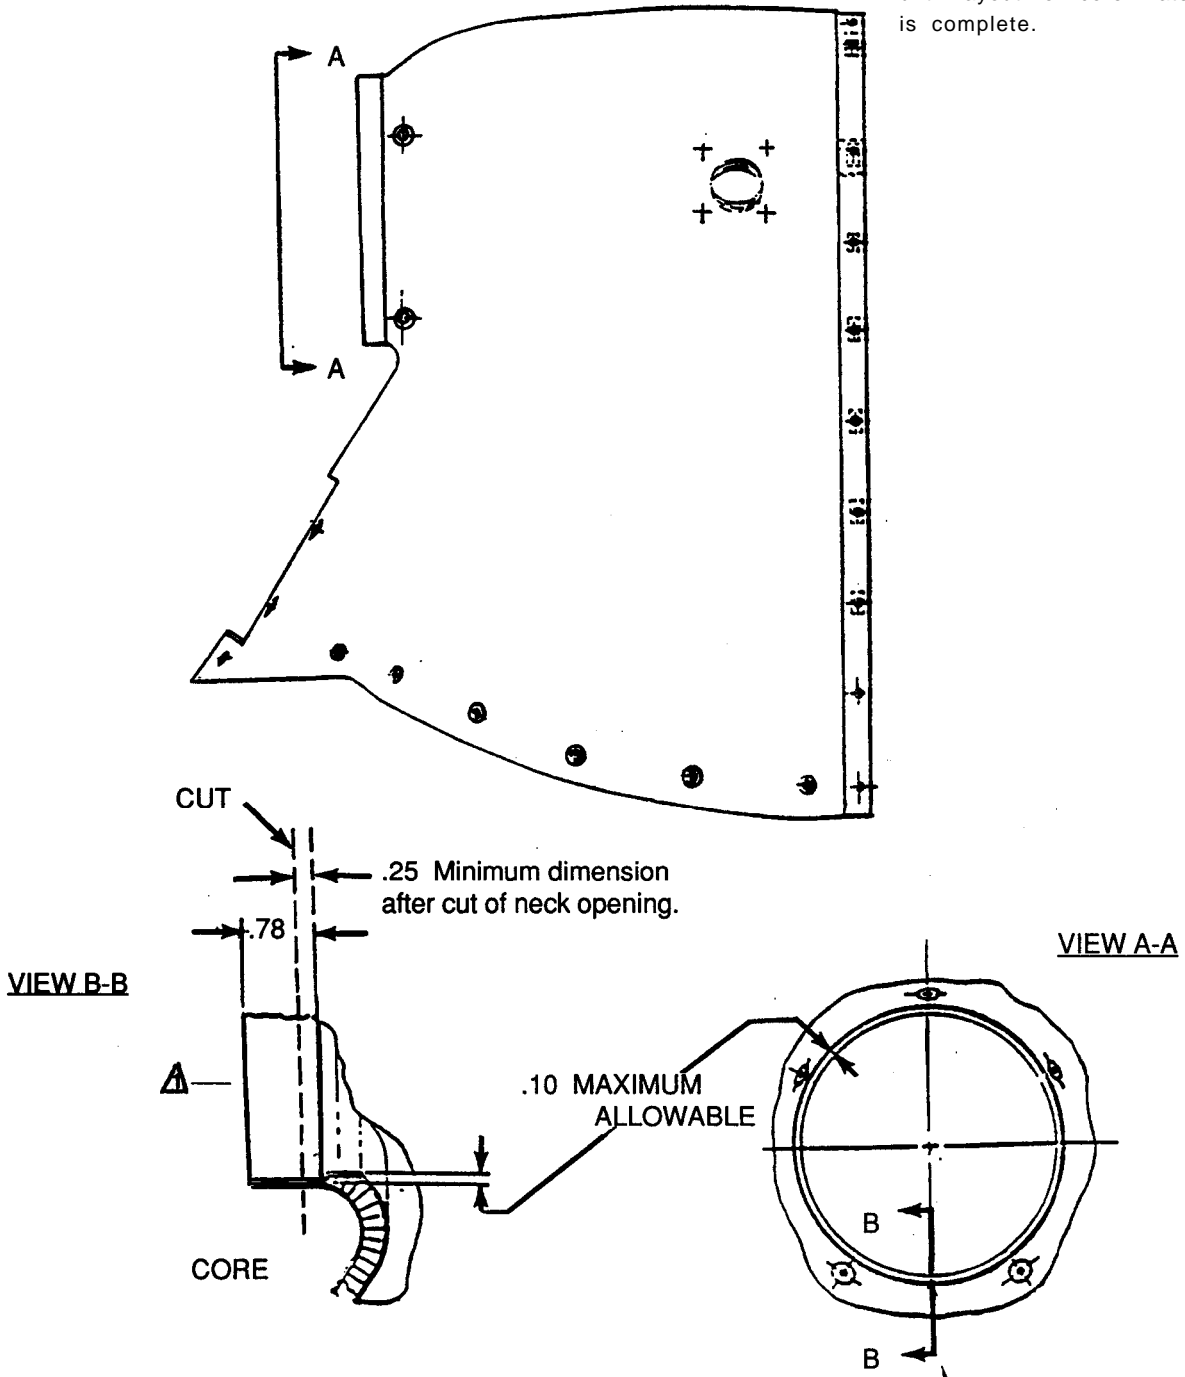

Figure 3. Rework/Modification of Forward Fairing.
- (b) Use rotary files and utility knife as required to remove top layer of skin and core material. Caution should be used when removing core material to not penetrate thru the outer skin of the fairing. Reduce neck opening in accordance with Figure 3.
(a) Using rotary file, remove enough material to allow for 1 layer of fiberglass to be applied on the reworked area and still be within the requirements in Figure 3.